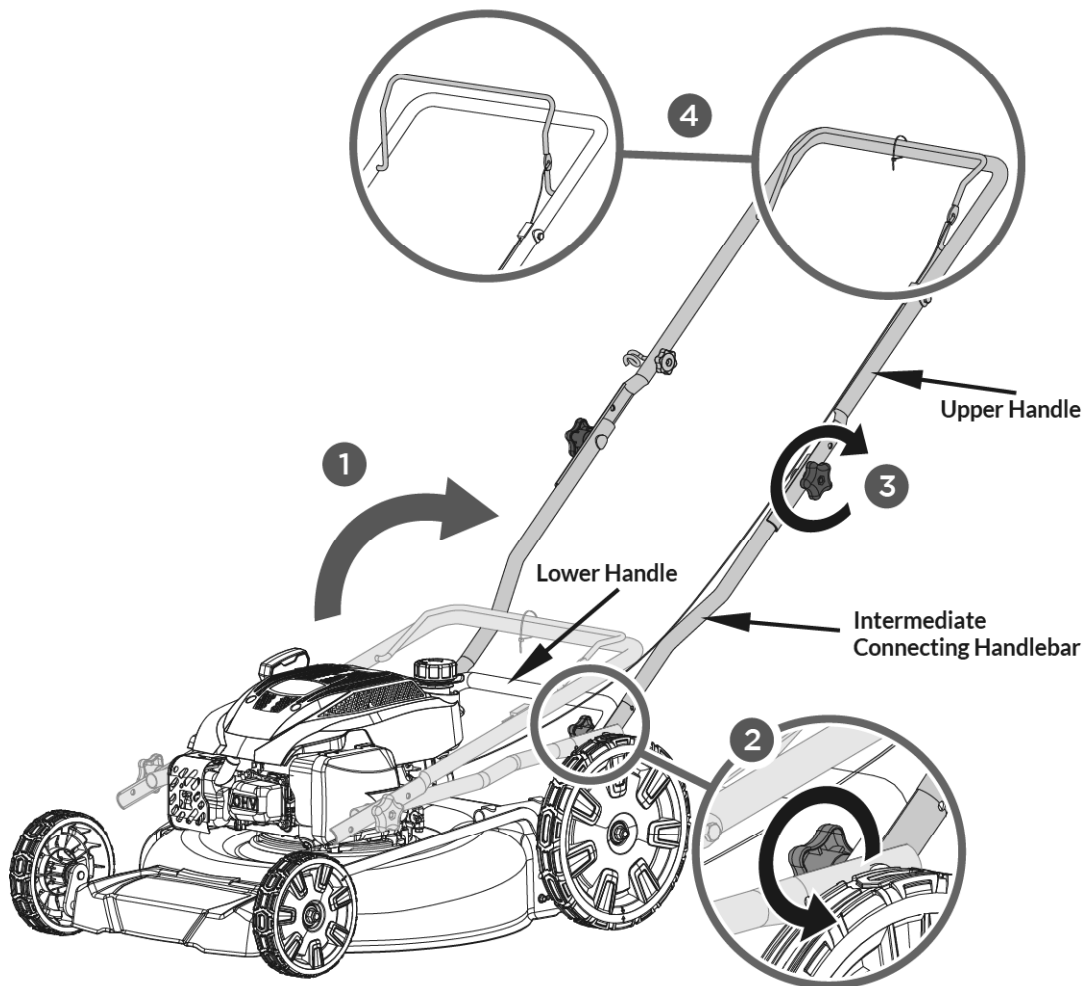

Figure 2
1. Unfold the handlebars to the working position. (See **Figure 2, illustration 1**)
2. Tighten the lower star shaped clamping nut knobs and carriage bolts (connecting the lower and intermediate connecting handlebar). (See **Figure 2, illustration 2**)
3. Tighten the star shaped knobs and carriage bolt connecting the upper and intermediate connecting handlebars. (See **Figure 2, illustration 3**)
4. Cut the cable tie to release the engine start/stop control lever and the drive control lever. (See **Figure 2, illustration 4**)